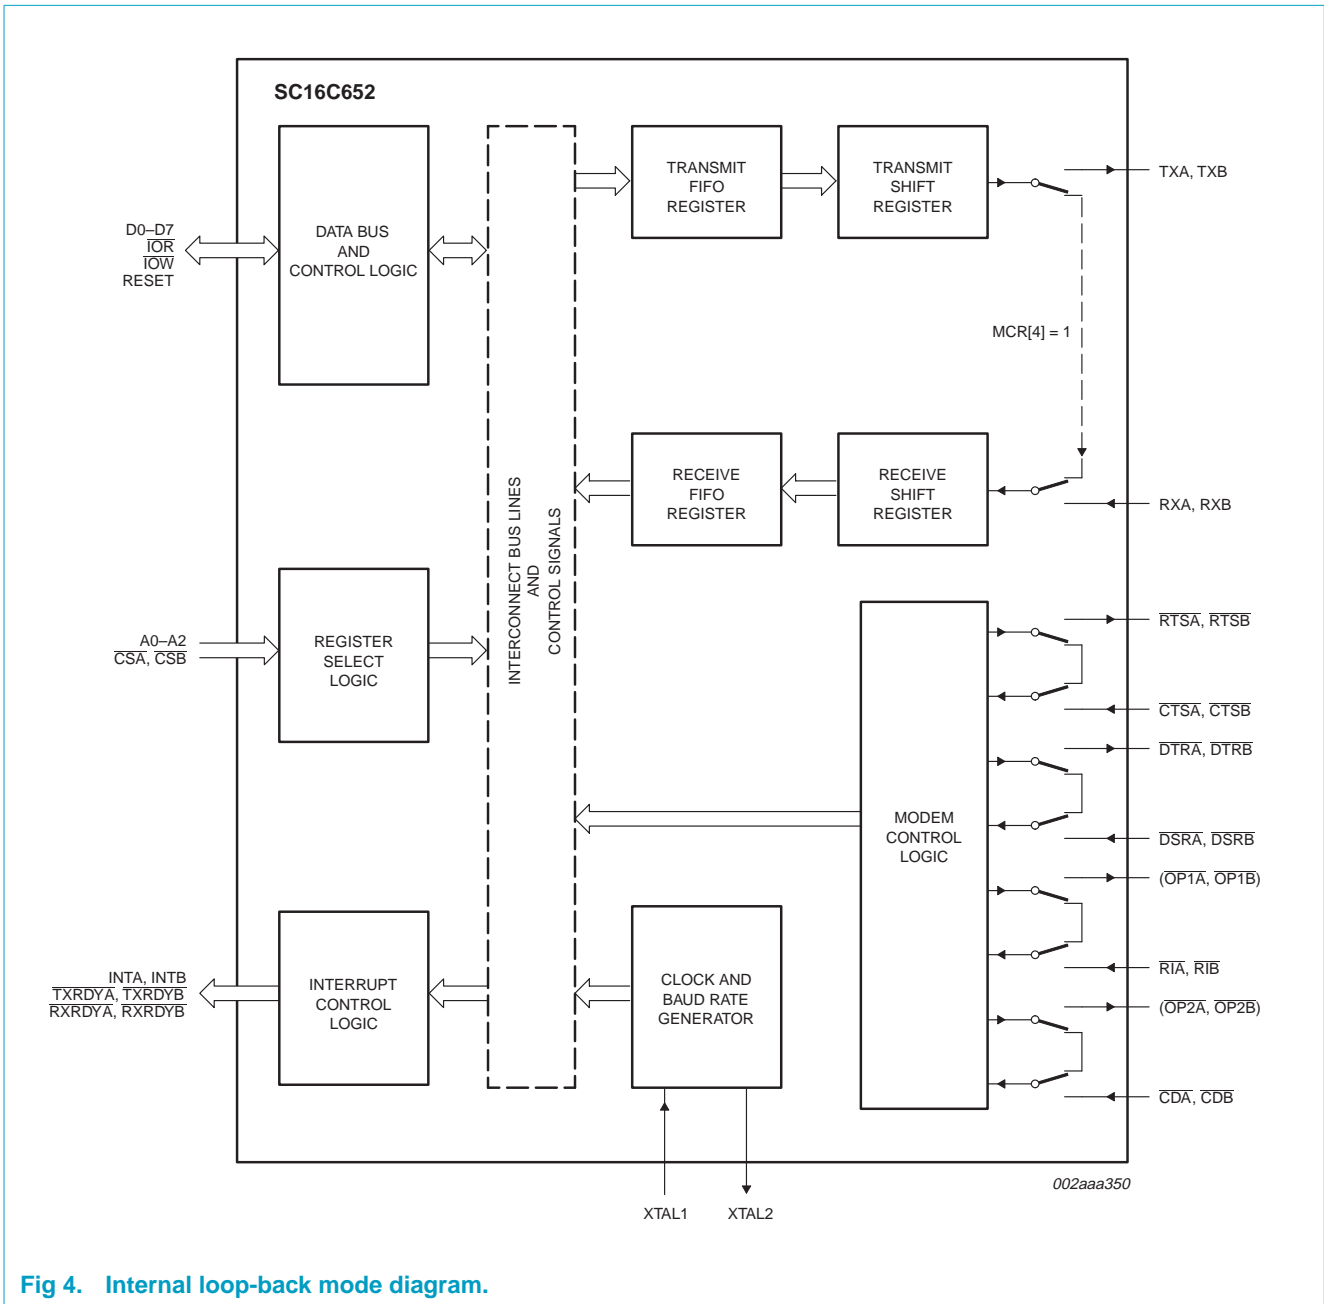

Fig 4. Internal loop-back mode diagram.
The internal loop-back capability allows on-board diagnostics. In the loop-back mode, the normal modem interface pins are disconnected and reconfigured for loop-back internally (see Figure 4). MCR[0-3] register bits are used for controlling loop-back diagnostic testing. In the loop-back mode, the transmitter output (TX) and the receiver input (RX) are disconnected from their associated interface pins, and instead are connected together internally. The  $\overline{\text{CTS}}$ ,  $\overline{\text{DSR}}$ ,  $\overline{\text{CD}}$ , and  $\overline{\text{RI}}$  are disconnected from